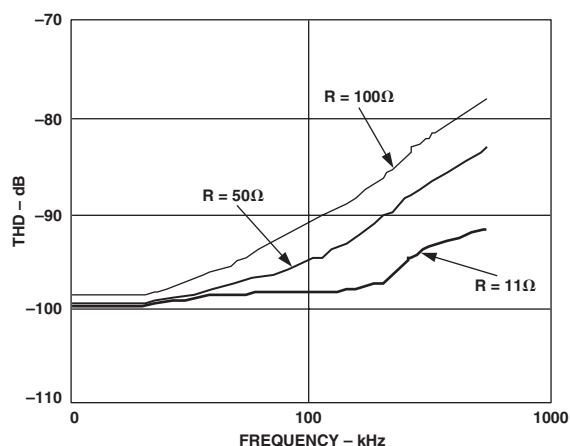

Figure 11. THD vs. Analog Input Frequency and Input Resistance (0 V to 2.5 V Only)
When using the 0 V to 2.5 V analog input voltage range, the input impedance of the ADC is very high so the ADC can be driven directly by a low impedance source without gain error. That allows putting an external one-pole RC filter between the output of the amplifier output and the ADC analog inputs to even further improve the noise filtering done by the ADC analog input circuit. However, the source impedance has to be kept low because it affects the ac performances, especially the total harmonic distortion (THD). The maximum source impedance depends on the amount of total THD that can be tolerated. The THD degradation is a function of the source impedance and the maximum input frequency, as shown in Figure 11.
- The driver needs to have a THD performance suitable to that of the ADC. Figure 11 gives the THD versus frequency that the driver should preferably exceed.